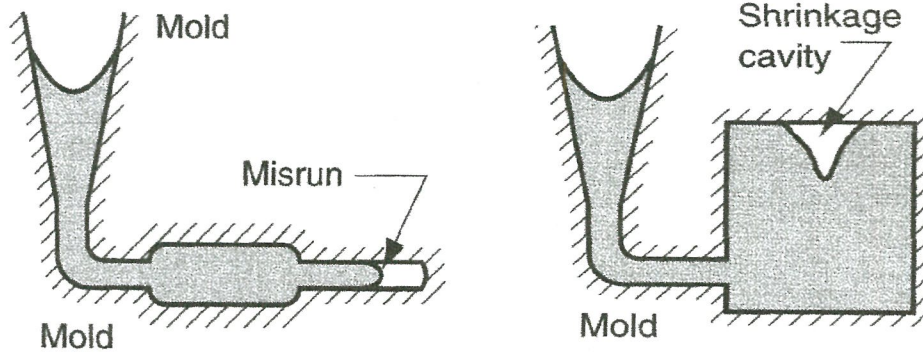

Figure Q3(d)
- (b) Considering two materials of plastic and stainless steel to be used for food container, propose at least **FIVE (5)** considerations to be taken into account in selection of suitable material. (10 marks)
- (b) Illustrate **FOUR (4)** basic types of chip in machining and for each type give **ONE (1)** reason why it is happen. (6 marks)
- (b) Describe **TWO (2)** important properties of molding sand in metal casting process. (4 marks)
- (d) **Figure Q3(d)** illustrates the types of casting defect that has contributed high reject rates to Aluminium Alloy Casting Sdn. Bhd. in their alloy wheel products. As a new appointed technology engineer, you have been assigned to reduce the reject rates by minimizing the defects. Analyse the causes of the defects and propose possible countermeasures that can be composed by the company.